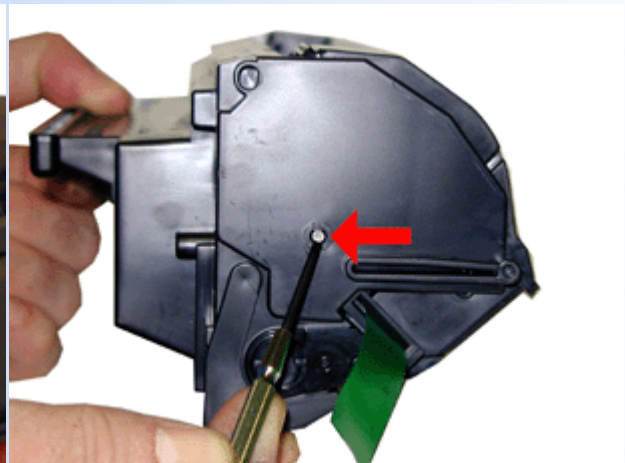

FIGURE 18
- 20. Install the two hinge pins. Make sure that you don't push them in too far so that they come out easily next time. New replacement pins are not yet available. See Figure 18